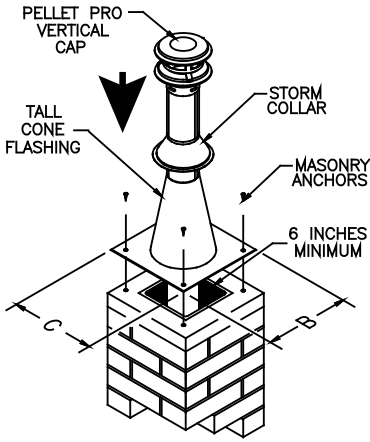
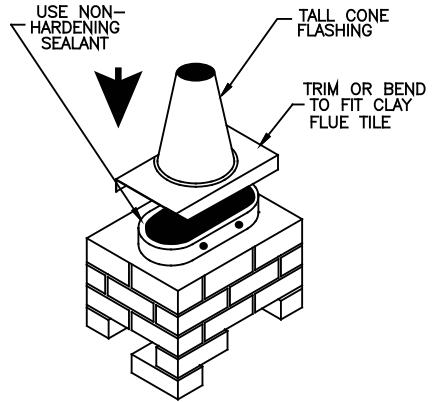

Figure 23
Figure 25
11. For support at the termination of the PelletVent, use a Tall Cone Flashing, and a Storm Collar. This will require 14 inches of pipe above the top of the masonry chimney. Pull the pipe up through the flashing to the desired height. Mark location of the Storm Collar. Slip the Storm Collar down over the pipe and affix it to the pipe with a 1/4"-long stainless steel sheet metal screw (*Figures 23 & 24*). The Storm Collar will then support the entire vent system. Install the Cap. Seal the joint at the Storm Collar, and any other joints or seams which may appear suspect. (*Figure 25*) shows a Tall Cone Flashing modified to fit a chimney where the tile liner protrudes above the masonry, as another alternate termination technique. This completes the masonry installation.